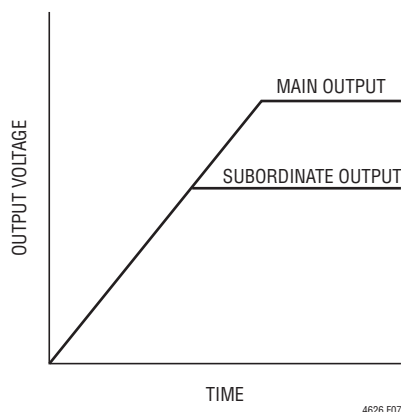

Figure 7. Output Coincident Tracking Waveform
Coincident output tracking can be recognized as a special ratiometric output tracking in which the main's output slew rate (MR) is the same as the subordinate's output slew rate (SR), waveform as shown in Figure 7.